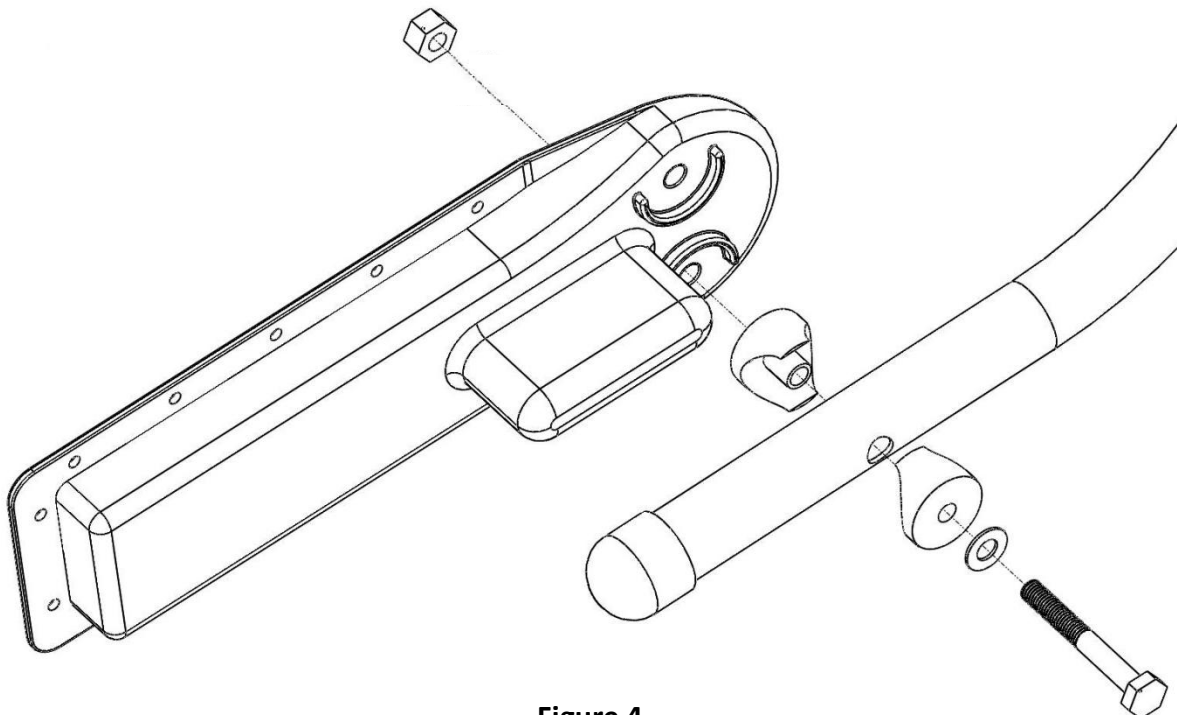

Figure 4
4. Connect the Pivot Arm (EX-B) and two Bushings (EX-E) to the Mounting Brackets (EX-F), using one 3/8" x 3" Hex Cap Bolt (EX-G), two 3/8" Flat Washers (EX-L), and one 3/8" Nylon Locknut (EX-K), as shown in Fig 4.